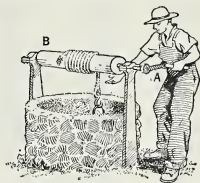

Fig. 122. The windlass—a wheel and axle.
**Wheel and axle.** Figure 122 shows another simple machine, which you have probably seen used to lift a bucket of water from a well. It is called a *windlass*. It is really a modification of a lever. When the handle (A) has made one complete turn, the rope will have wound around the cylinder (B) one turn. If the circumference of the circle made by the handle measures 6 feet and the length of the rope wound on the cylinder is 1 foot, then the effort has moved 6 while the resistance moves 1. An effort of 10 pounds applied on the handle of such a windlass will overcome a resistance of 60 pounds, or will lift a bucket of water weighing 60 pounds from the well. Here, again, we are neglecting in this discussion the effort necessary to turn the cylinder in its bearings and to bend the rope around the cylinder. Practically, therefore, the mechanical advantage of the wheel and axle is always somewhat less than you might expect it to be; or, to put it another way, the efficiency of the wheel and axle is always less than 100 per cent.